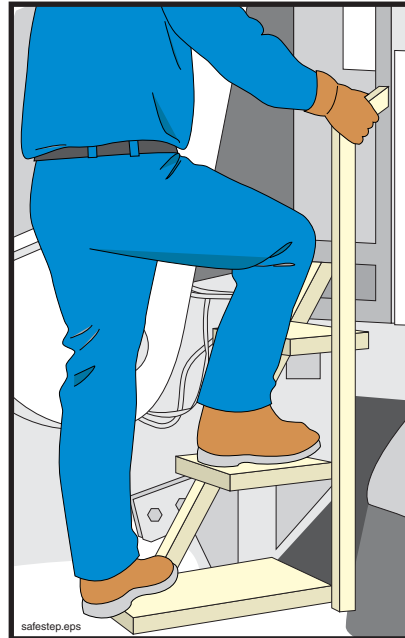

Figure 71
- 15.16**  **WARNING** Remember to mount and dismount the unit using the “3 Point Rule.” One hand and two feet or two hands and one foot are to be in contact with a secure surface at all times (Figure 71).